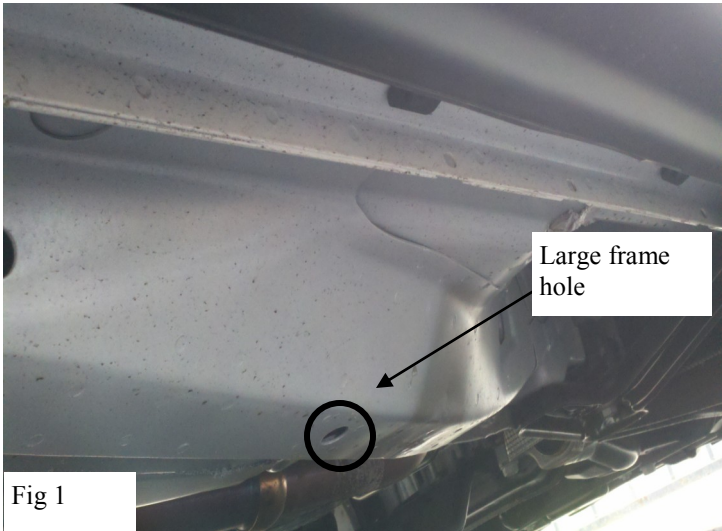

Fig 1
2. Starting from the front drivers side of the vehicle Install J-Bolt in the large hole in the frame . (fig 1, 2)